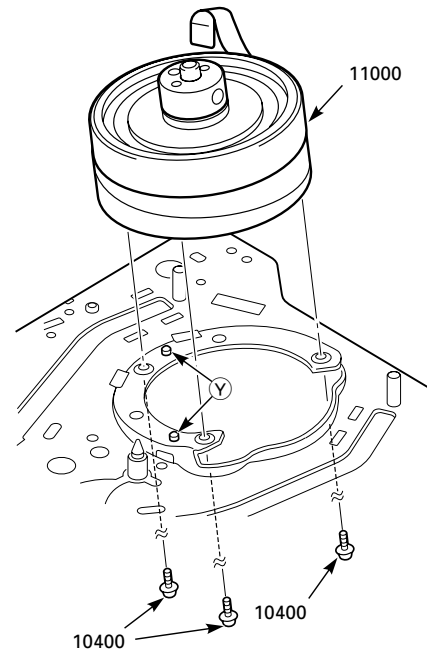

Fig. 8.38
- Undo the three screws (10400) at the bottom of the mechanism and take the complete tape drum (11000) out (Fig. 8.38).
**Refitting:** When refitting the tape drum (11000) align it to match with the two dowels (V) of the mounting base on the mechanism chassis (Fig. 8.38). Tighten the screws (10400) using a torque of 3.9 to 4.2kg/cm.